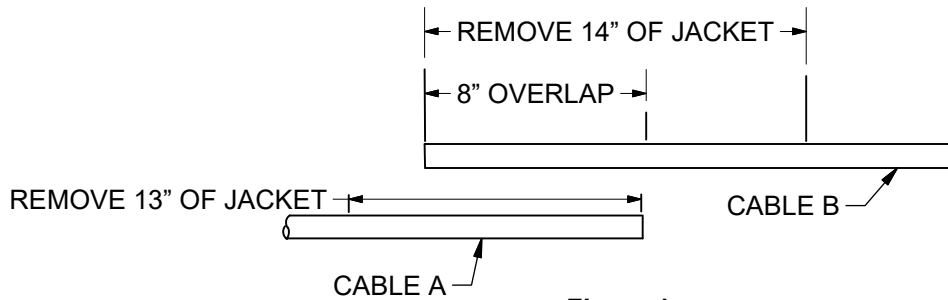

Figure 1
1. There must be an 8" overlap of the cables, Figure 1. Wipe clean 24" each side.